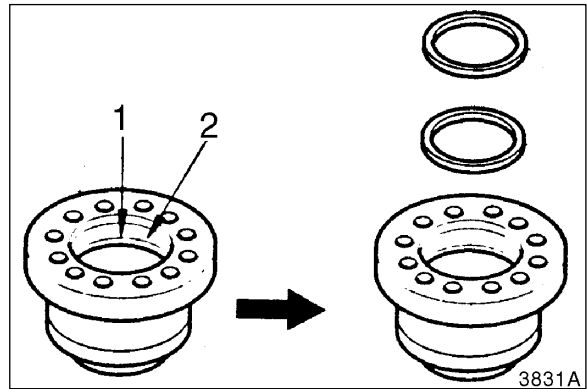

Figure 12
- When disassembling cylinder head do not remove slipper seal, backup ring, back ring, or dust seal unless items are scratched or damaged. If seals are removed from head, they must be replaced. They cannot be reused. Remove snap ring, (1, Figure 12). Use a screwdriver to remove dust seal (2) from head.